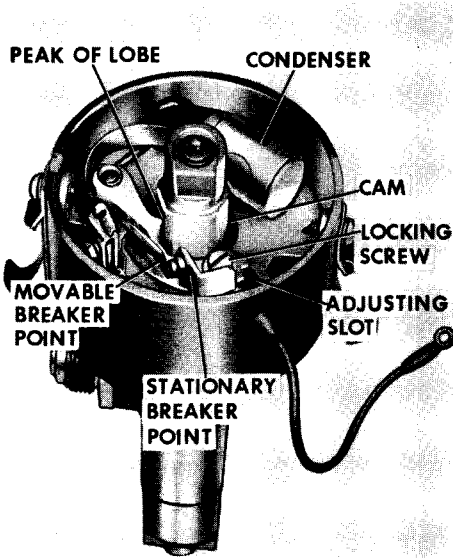

Figure 61
3. Crank the engine over slowly until the block on the movable distributor point is in contact with the peak of the lobe on the distributor cam, Figure 61.